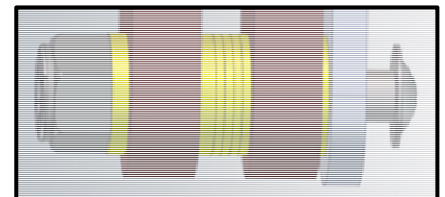

FIGURE 15 – Washer Order for Reassembly
17. Reinstall the four bolts securing the pilot's throttle assembly from the left forward panel. There are two thicker washers per bolt, make sure these are in the correct position (see Figure 15).